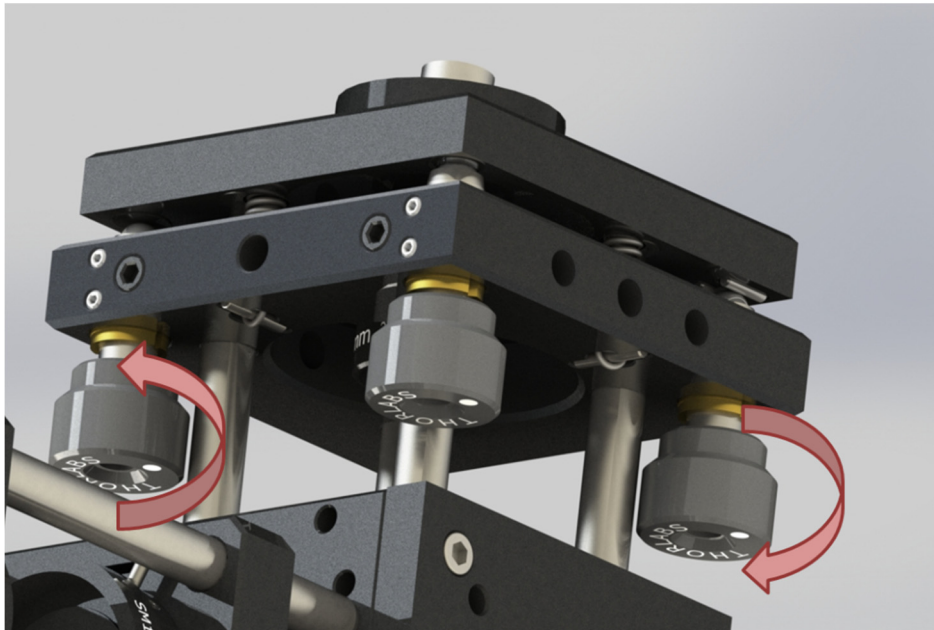

Figure 23 Adjustment of Collimator
- 5. Use the knobs indicated in Figure 23 to align the fiber collimation module such that light is centered on the alignment target. A good starting point for the procedure is a parallel orientation of the kinematic mirror mount that comprise the fiber collimator mount. The alignment can be monitored on the IR viewing card.